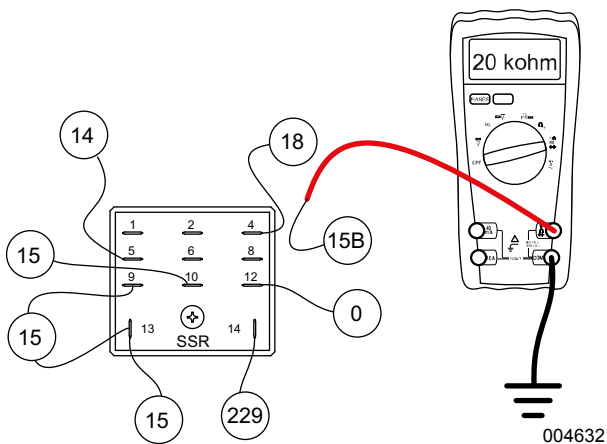

Figure 4-55. Check Wire 15B
2. See Figure 4-55. Disconnect wire 15B from the Start Stop Relay (SSR).